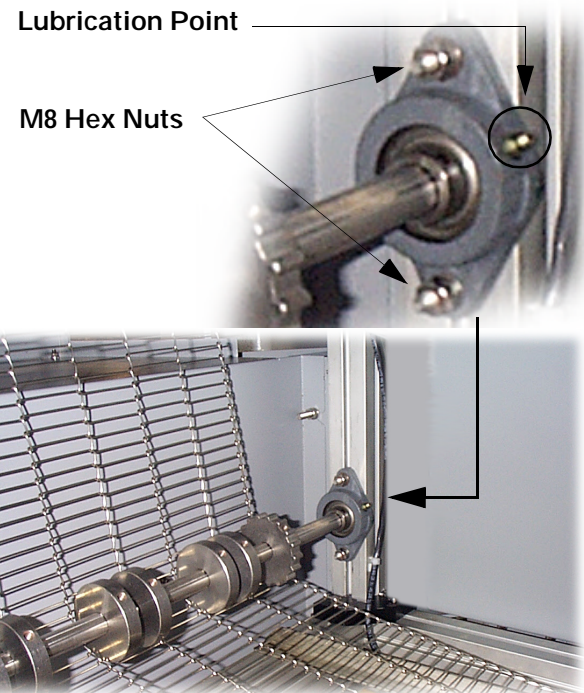

Figure 82: Lubrication and Tension Adjustment
The mesh belt conveyor has a rod across the width of the machine in the cabinet toward the lower Load End and the cabinet toward the lower Unload End. Both the lower carrier rod at the Unload End and the tensioner rod at the Load End have grease zerts on the bearing blocks where they are mounted to the machine. There are four (4) lubrication points — one (1) on each bearing block. Refer to Figure 82.
The mesh belt must be properly tensioned so that it moves smoothly when the conveyor is on. Adjust the tension by loosening the M8 Hex Nut Bolts that secure the tensioner rod bearing to the machine frame. Slide the rod up or down to achieve the desired tension. Refer to Figure 82.